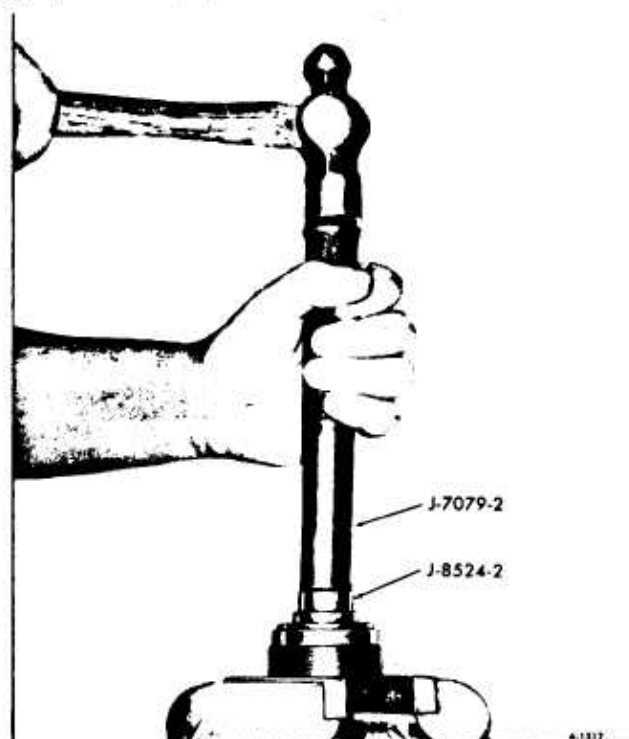

Figure 30-Removing Bearing and Seal
3. If the needle bearing is to be replaced, remove the retaining ring using Internal Pliers J-4245. Remove thrust bearing as outlined in Step 2 above. Drive needle bearing, dust seal and oil seal from adjuster plug using Bearing Remover J-8524-2 and Driver J-7079-2 as shown in Figure 30. Discard the seals.